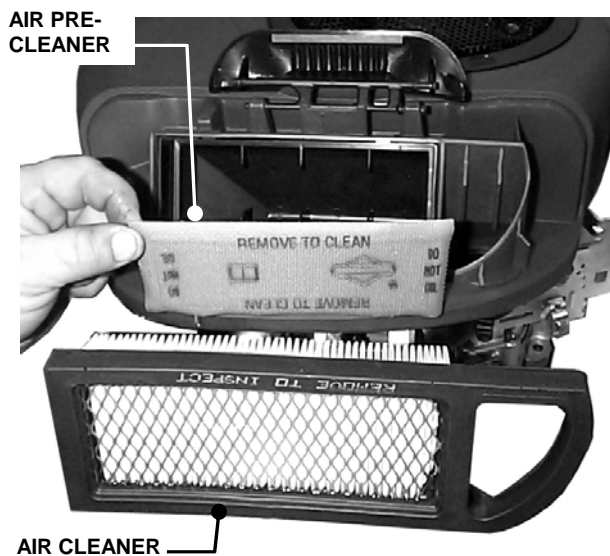

FIGURE 3.6
- b. Refer to engine owner's manual for cleaning and service instructions. Remove and clean engine air pre-cleaner. Remove and replace engine air cleaner. See Figure 3.6. Install pre-cleaner and air cleaner per engine owner's manual.